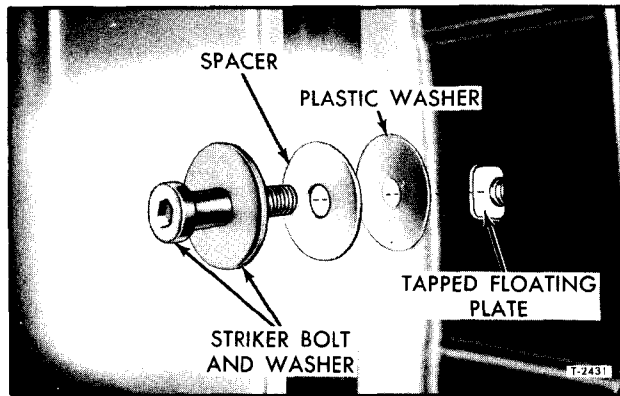
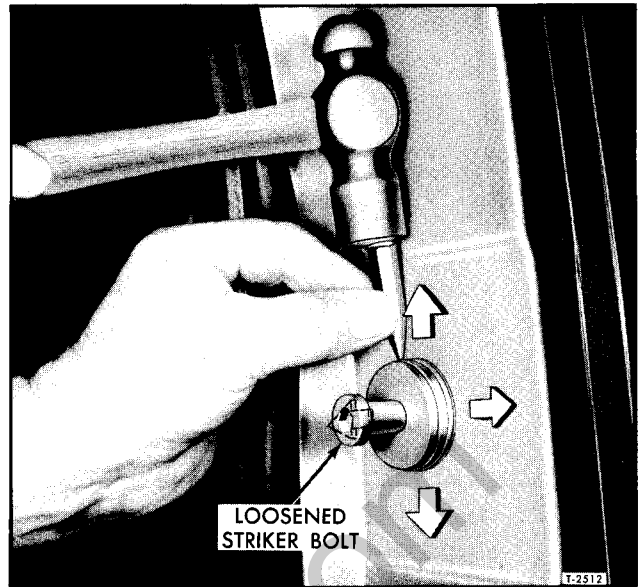

Figure 7—Door Striker Bolt and Washers
Figure 9—Relocating Striker Bolt
The door striker consists of a special bolt and washer assembly which is threaded into a tapped, floating cage plate located behind the cab lock pillar as shown in figure 7. The door is secured in closed position when the lock cam in door engages and snaps-over the striker bolt. Striker bolt can be replaced or adjusted as directed under applicable headings.
Removal (Refer to Fig. 7)
Installation (Refer to Fig. 7)
NOTE: Striker bolt on cab pillar is adjustable vertically and transversely as shown in figure 9 after loosening the bolt with a 5/16-inch hex wrench. The bolt fore and aft adjustment is obtained by use of shim spacers located between the bolt washer and the cab pillar. Figure 7 illustrates location of bolt, washers and spacer.
4. If necessary, raise or lower the loosened striker bolt up or down by tapping on the washer or spacer at base of striker bolt as shown in figure 9. DO NOT TAP ON HEAD OF BOLT.